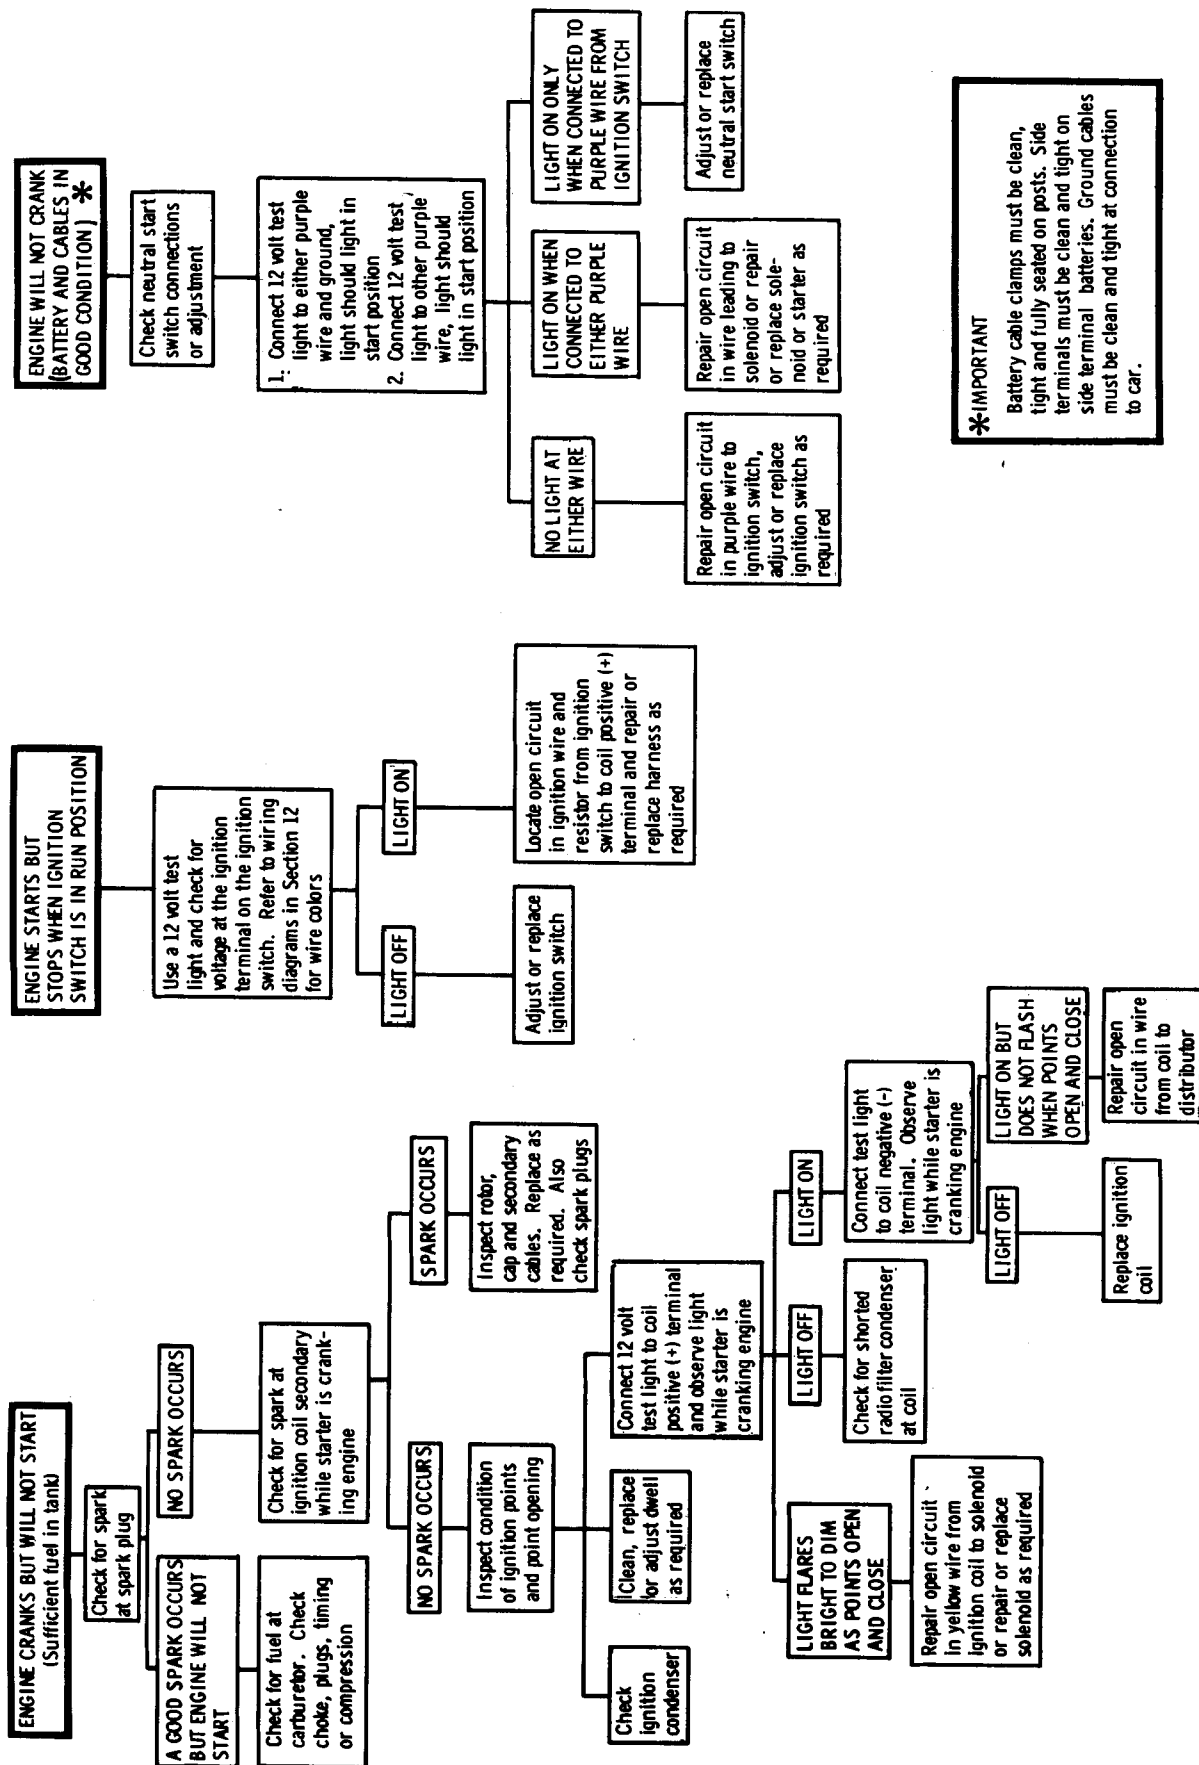

Fig. 6E-37 Ignition System Diagnosis
To check for an undercharged battery condition, as evidenced by slow cranking, follow Charging Circuit Preliminary Checks, Fig. 6E-17 (SI) or Fig. 6E-21 (10 DN). For an overcharged battery, as evidenced by excessive water usage, refer to Trouble Charts, Figs. 6E-17 thru 6E-21.